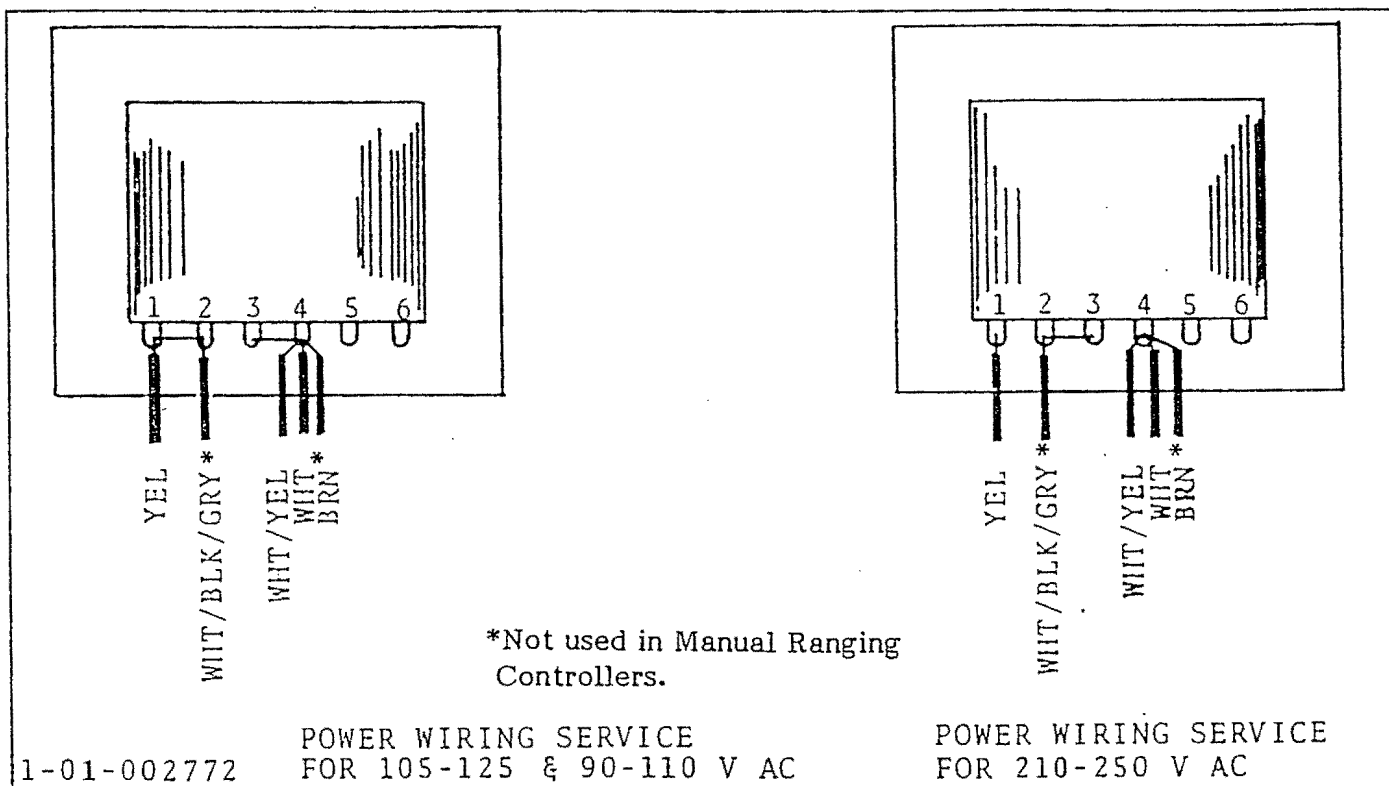

FIG. 2-1 TRANSFORMER WIRING
*The 105-125V controllers can be converted to 210-250V operation by making the wiring changes shown in Fig. 2-1. Replace the power fuse, F1, with a 1A slo-blow fuse rated at 250V. Place the 230-volt decal supplied with these models over the 115-volt rating on the rear panel. If the power connector provided with the unit is not compatible with the power source that is available, the power plug on the cordset supplied with the controller can be removed and replaced by the appropriate type. Wire the new plug according to the following wire insulation color code in order to maintain safe operation: